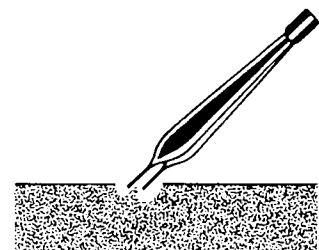

Figure 10
- Bipolar Coagulation – A technique where the current flows between two closely placed electrodes as seen with the forceps in Figure 10. A dispersive patient plate is not used.